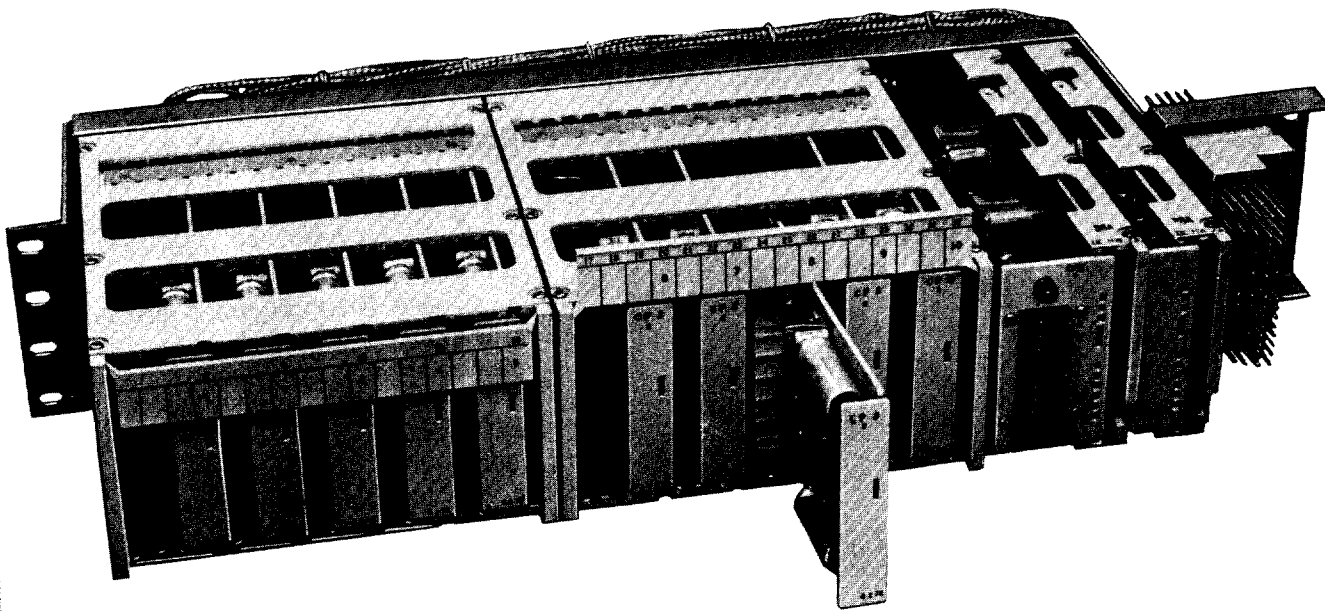
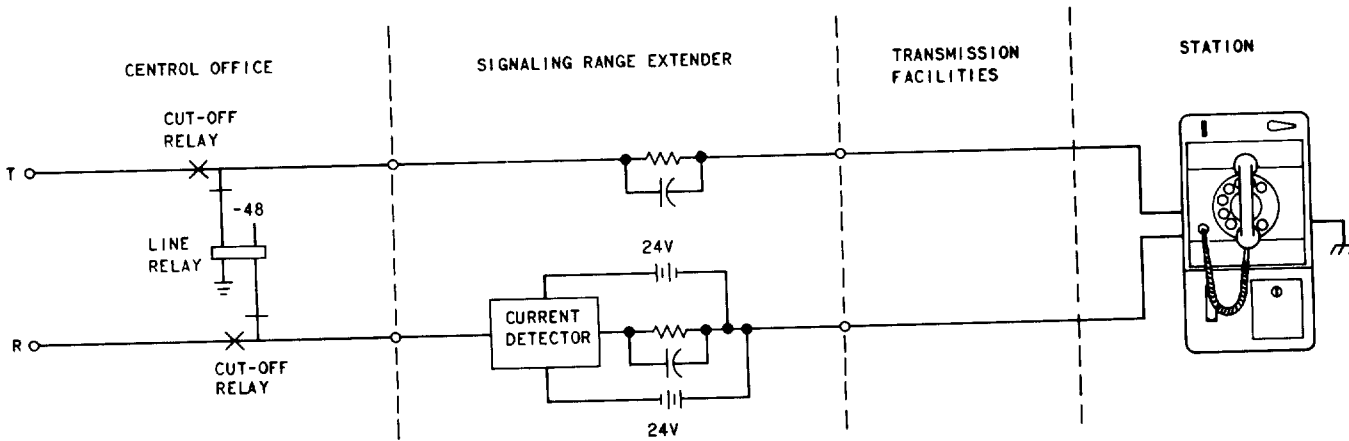

Fig. 1—Signaling Range Extender
Fig. 2—SRE Application Schematic on Coin Station Line
**1.02** The SRE (Fig. 1) is a self-contained unit utilizing plug-in, solid-state circuitry to provide range extension for a maximum of ten lines. The unit shelf is mounted on a standard 23-inch relay rack and requires a mounting space 4 inches high by 10 inches deep. Figure 2 is a simplified application schematic of the SRE on a coin station line.